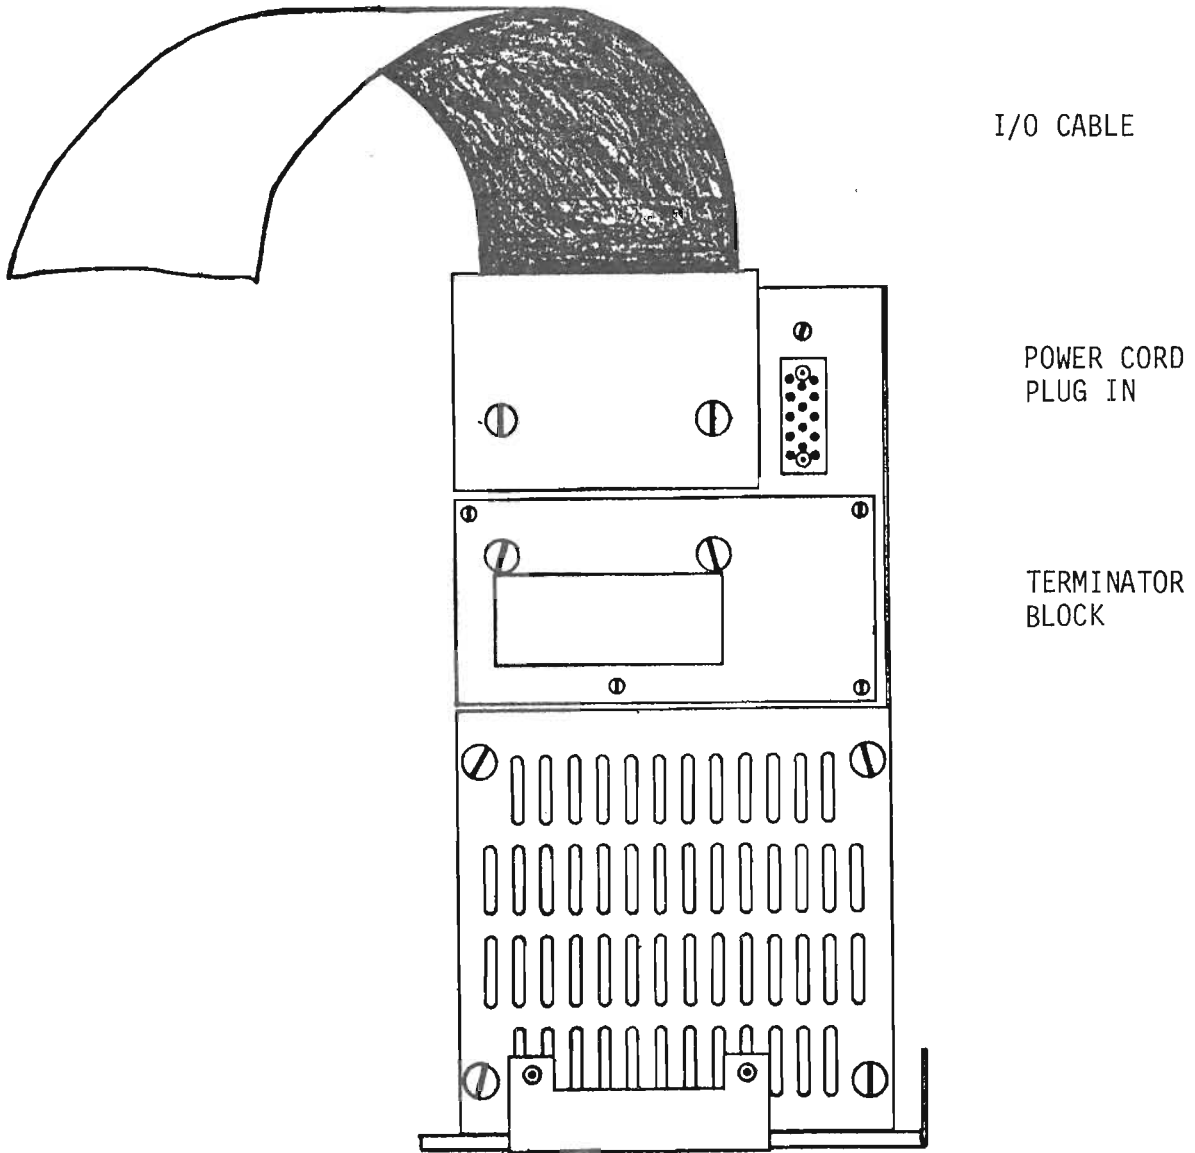

FIGURE 4-17 I/O CONNECTIONS
1. Disconnect the I/O cable from the rear of the Diablo Drive. Install the 7013 exerciser and the terminator block (see Figure 4-17).
Disconnect the I/O cable from the rear of the Diablo drive and install the 7013 exerciser. Install the terminator block (see Figure 4-17).